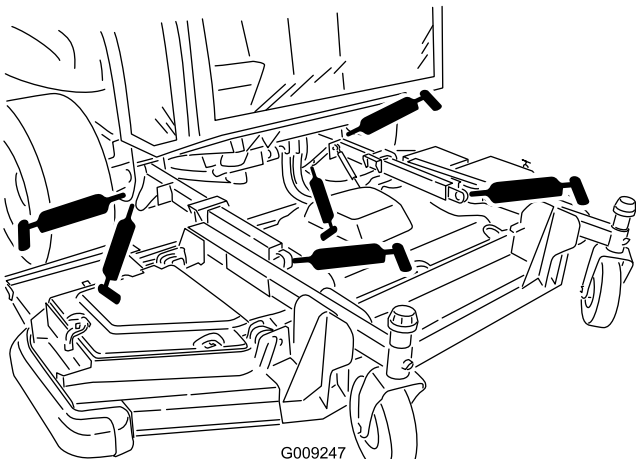

Figure 81
- 2 lift-arm bushings (Figure 81)
- 2 lift-arm-ball joints (Figure 81)
- 2 front deck lift-cylinder pivots (Figure 81)